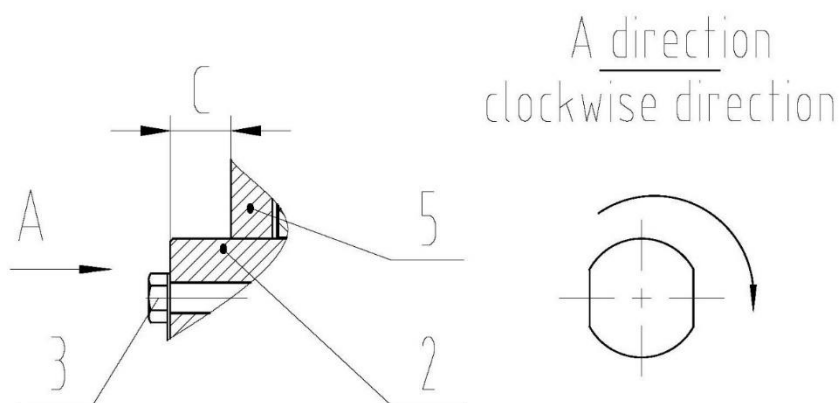

Fig. 8: Air gap setting
Value C (distance rear end cover to adjusting pin – see fig. 8) has to be set to 1~2mm. Therefore the working pressure of the HPU must be set to the value acc. to table 7. Open and close the brake a few times and check distance C. If value C is over 2mm: Open brake, counter-clockwise (CCW) rotate the pad connecting bold (3) to unscrew. Clockwise (CW) rotate the adjustment pin (2) and open/close the brake until value C is set between 1...2mm. Finally the pad connecting bolt must be tightened again. Don't forget to mount the protection cover (1) when the setting is finished.